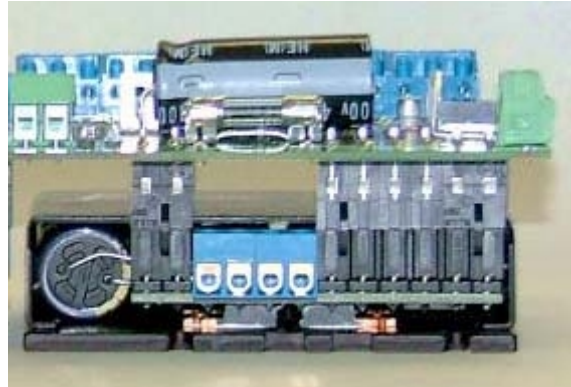

Figure 1 – Sample PMDX-131 and Geckodrive Assembly
6. For each Gecko stepper driver module, install the motor current set resistor in the corresponding 2-pin terminal strip on the PMDX-131. When looking at the PMDX-131/Geckodrive assembly from the edge as shown in Figure 1, this would be the green 2-pin terminal strip above and to the right of each Geckodrive module.
7. The resulting assembly should look similar to Figure 1.